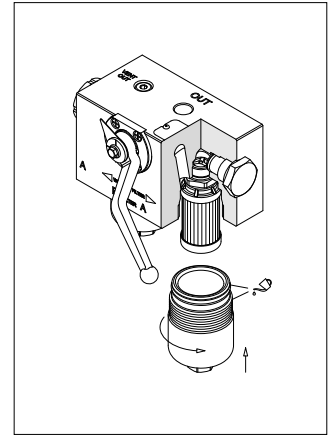

fig. 25
- (Fig. 25) Lubricate the thread and the O-ring of the bowl, then screw the bowl in referring to the tightening torque table in paragraph 3